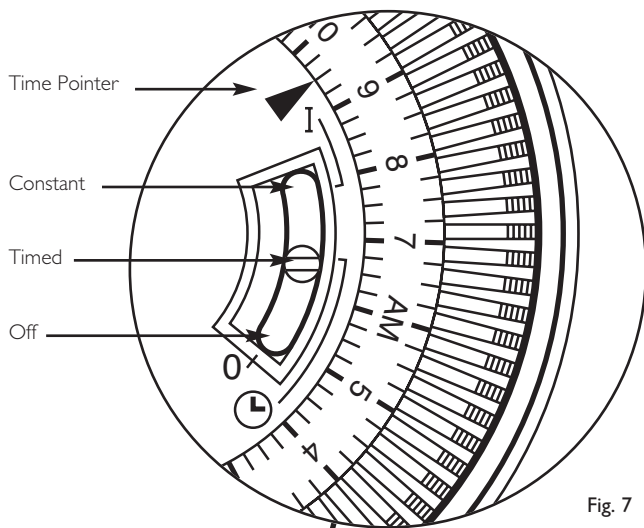

Fig. 7
**Three position switch** (Fig. 7)